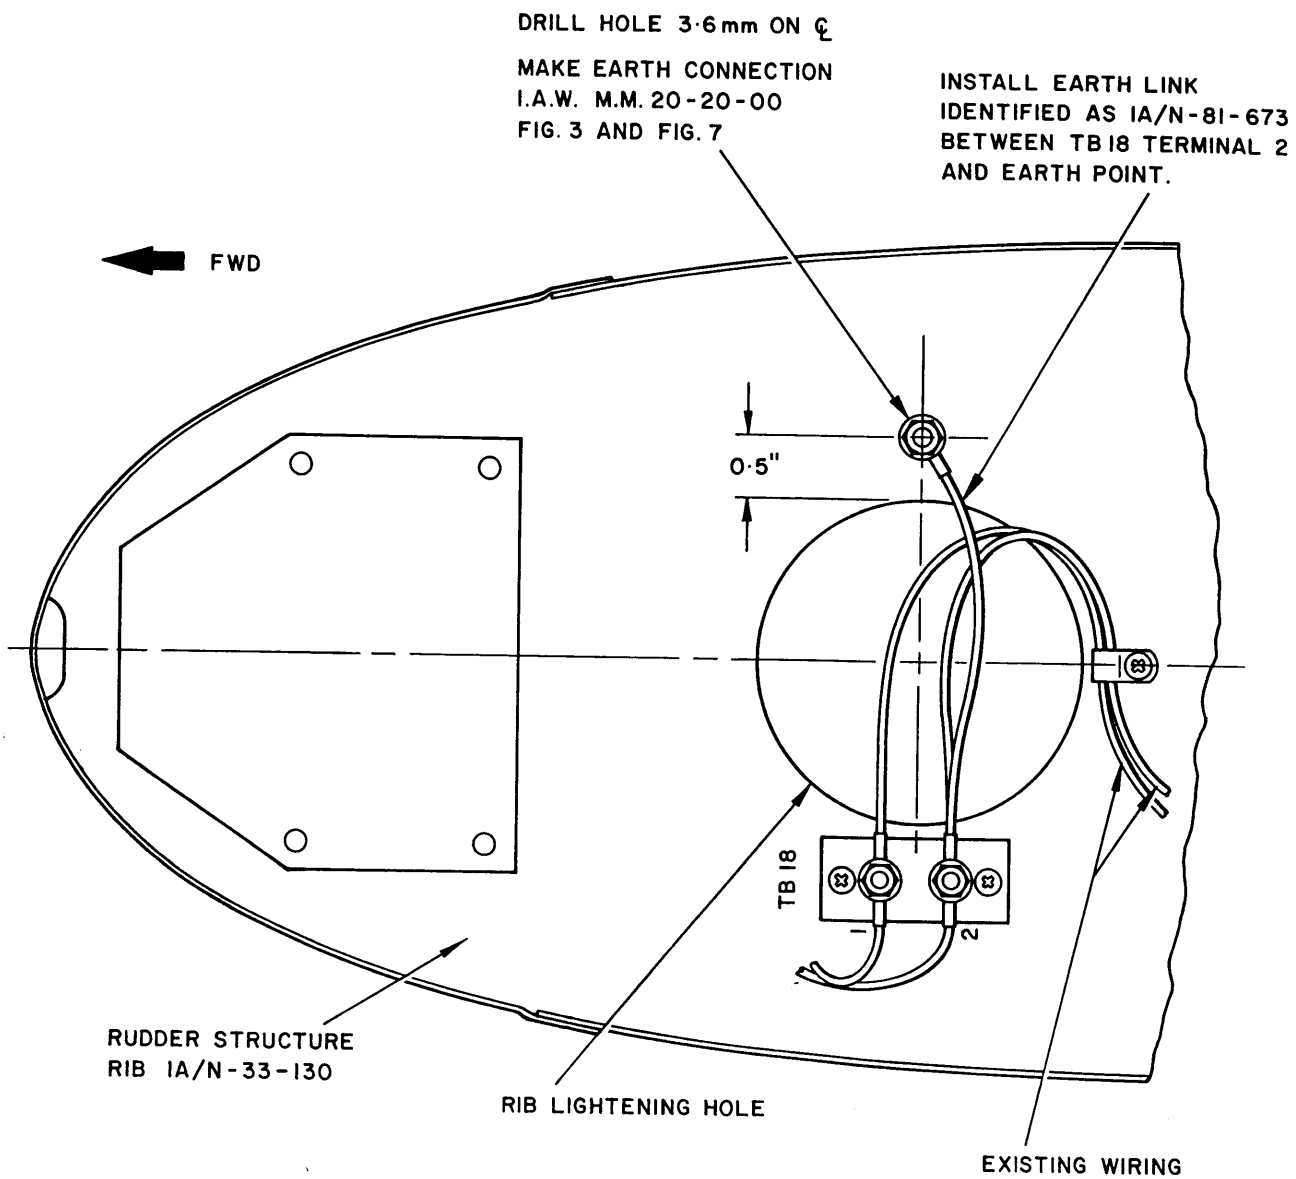

FIG. 1
- (1) Remove strobe light beacon from rudder tip.
- (2) Ref. Fig. 1 of this instruction and manufacture 5" earth link cable from cable M81044-9-18-9, attach terminal lug MS25036-102 to each end. Identify link 1A/N-81-673.
- (3) Drill rudder structure rib in location as shown, for the earth connection.